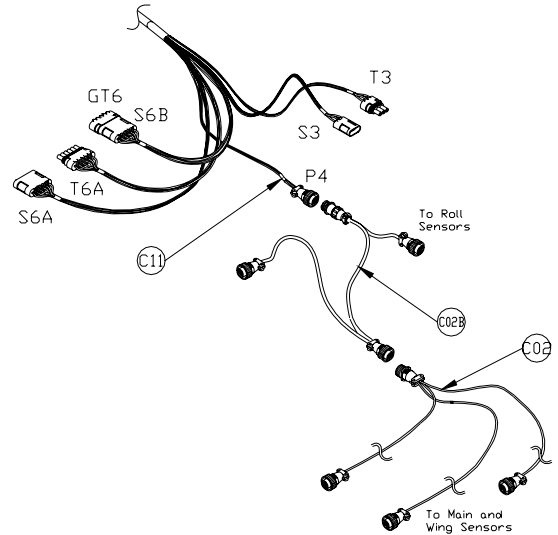

Figure 24 – Cable Configurations: C11, C02 and C02B
15. Connect the CAN Node cable (**C02B**) to the 4-pin AMP plug on **C11** (**Figure 24**).
18. Connect the sensor branch cable (**C02**) to the 4-pin AMP plug on **C02B** (**Figure 24**).